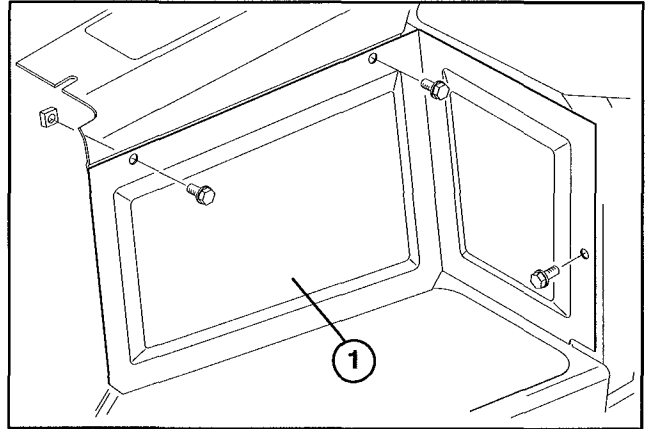

Figure 3
PUSH MACHINE OFF PALLET (Fig. 3–4)
1. Remove (3) screws securing side panel from left side of machine and remove panel (Fig. 3).
2. Through slot in left panel, remove (2) wing nuts and washers securing top battery hold down to side battery hold downs. Remove top battery hold and slide battery forward to remove.